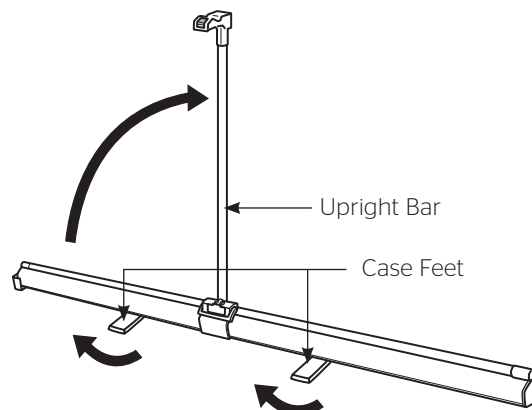

Figure 1
3. Rotate the upright bar 90 degrees into vertical position. Rotate the upright bar until it clicks (Figure 1).